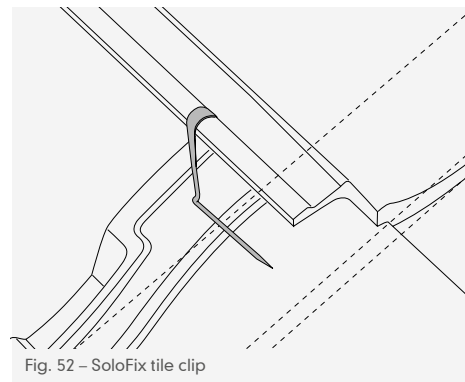

Fig. 52 – SoloFix tile clip
- 2 Tiles requiring once clipping should be fixed using a one piece SoloFix tile clip, located over the side lock of the tile (Fig. 52).